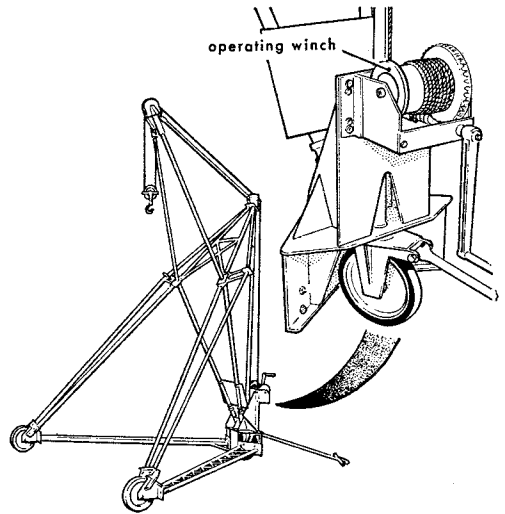

Fig 20 Hoist and winch
44. If the crane is one supplied by the motor transport section it will have been inspected and, so far as you are concerned, is serviceable and safe to use. If, however, the crane is hand-operated and kept by the user in the hangar or workshop, then it requires a pre-use inspection before it can be considered safe to use. As an example of a crane that needs inspecting before use, we will take a portable engine hoist. This hoist has a maximum jib height of 15 ft and will safely lift any load up to 2 tons; it is hand-operated and requires a standard pre-use inspection. The hoist is mounted upon three rubber tyred wheels in the form of a triangle. The rear wheel, to which the steering and towing arm is attached, is permitted to castor for steering purposes. Steel plates are welded together into a base to which the main steel structure is bolted. The winch mounting is built up from more steel plates welded together and bolted onto the main structure (Fig 20). The